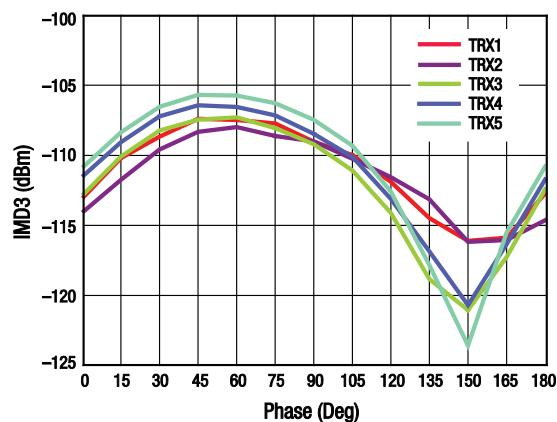

Figure 17. 3rd Order Intermodulation Distortion vs Phase, TRX Ports (f_{FUND} = 1.95 GHz, f_{BLK} = 1.76 GHz, f_{rx} = 2.14 GHz)
Figure 20 illustrates the test setup used to measure data for Figure 17. This industry standardized test is used to simulate the WCDMA Band 1 linearity of the antenna switch. A +20 dBm Continuous Wave (CW) signal, f_{FUND}, is sequentially applied to the TRX1 through TRX5 ports, while a -15 dBm CW blocker signal, f_{BLK}, is applied to the ANT port.